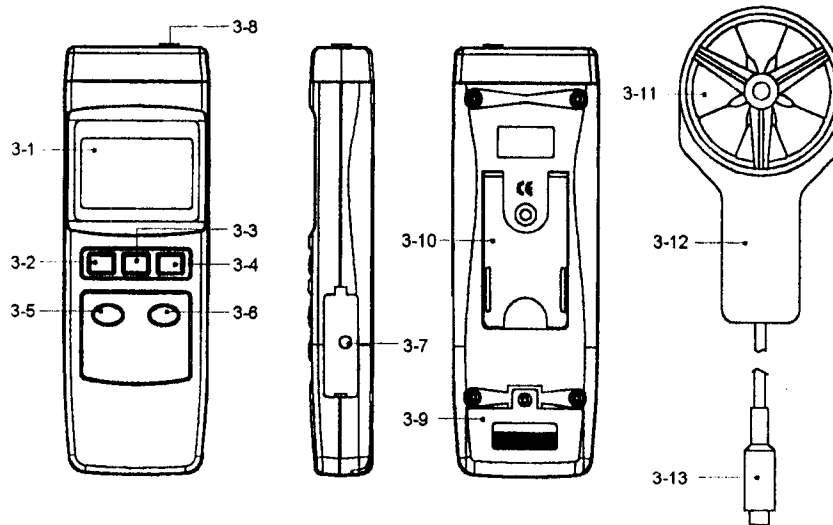

Fig. 1
- 1) Install the " Probe Plug " (3-13, Fig. 1) into the " Input Socket " (3-8, Fig. 1).
- 2) Power ON the meter by pressing the " Power Button " (3-2, fig. 1).
- 3) a. Select the desired air velocity unit (m/s, km/h, mph, knots, ft/min) by pusing the " unit Button " (3-5, fig. 1).
b. Select the desired temperature units by pusing the " °C/°F Button " (3-6, fig. 1).
- 4) Use the hand to hold the " Probe Handle " (3-12, Fig. 1), face the " Vane Probe Head " (3-11, Fig. 1) to the measured wind. In the same time the air velocity and the temp. value will show on the LCD display.
- a. During the measurement, pushing the " Data Hold Button " (3-3, Fig. 1) will hold the measured value & the LCD will indicate " HOLD " symbol.
- a. The data record function records the maximum and minimum readings. Press the " REC. Button " (3-4, Fig. 1) to start the Data Record function and there will be a " REC " symbol on the display.
- * Press the " REC Button " (3-4, Fig. 1) once, the " REC Max " symbol along with the maximum value will appear on the display.
If intend to delete the maximum value, just press the " Hold Button " (3-3, Fig. 1) for a while, and then the display will show the " REC " symbol only & execute the memory function continuously.
- * Press the " REC. Button " (3-4, Fig. 1) again, the " REC Min " symbol along with the minimum value will appear on the display.
If intend to delete the minimum value, just press the " Hold Button " (3-3, Fig. 1) for a while, and then the display will show the " REC " symbol only & execute the memory function continuously.
To disable this function, Select the memory record function during the measurement by pressing the " REC. Button " (3-4, Fig. 1).
The instrument has RS232 PC serial interface via a 3.5 mm terminal (3-7, Fig. 1).
- 2) Slide the " Battery Cover " (3-9, Fig. 1) away from the instrument and remove the battery.